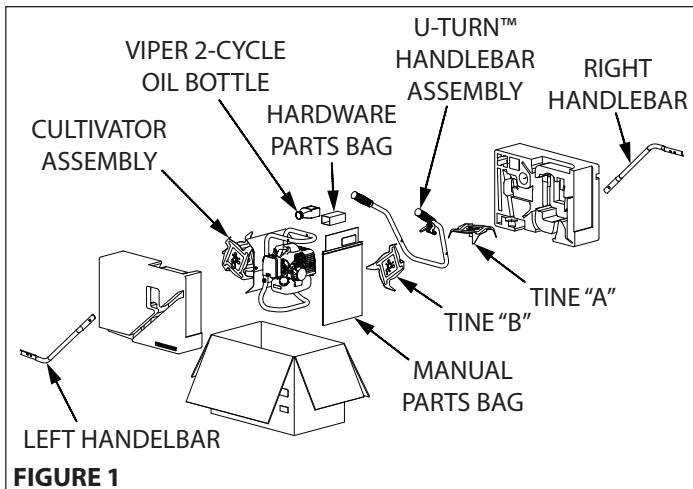

FIGURE 1
1. Carefully lift the cultivator out of the box, remove any packing material and cut any zip ties. **SEE FIGURE 1**